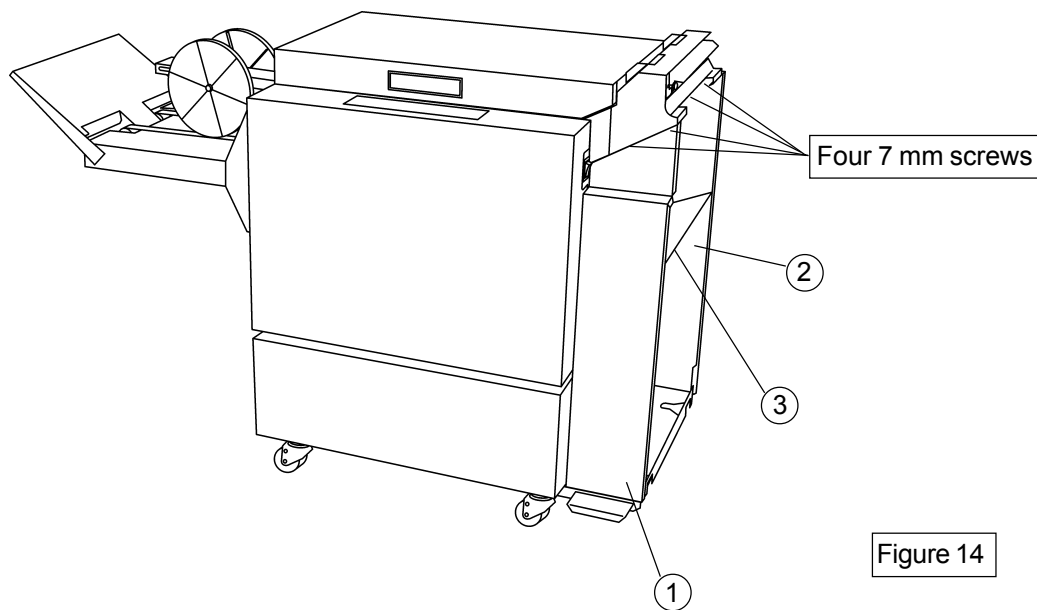

Figure 14
7. Take the front (1) and the rear (2) panels, slide them with the bottom first onto the docking bracket put the shelf (3) between the panels and slide the top of the panels under the screws on the infeeder. Tighten the four 7 mm screws. Take the printer exit tray and put it on the shelf, figure 14.